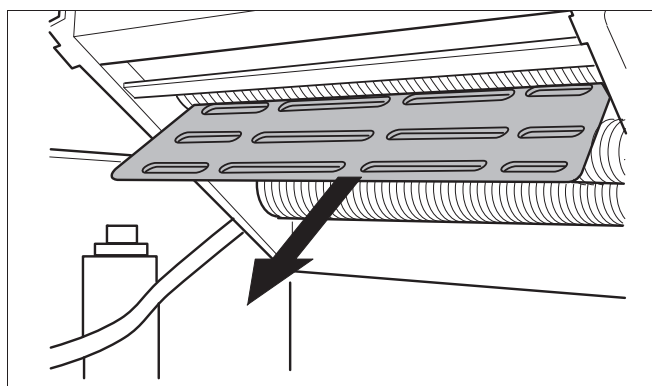

Fig. 46 Baffle plate
- Remove the baffle plate and clean it using compressed air (see fig. 46).